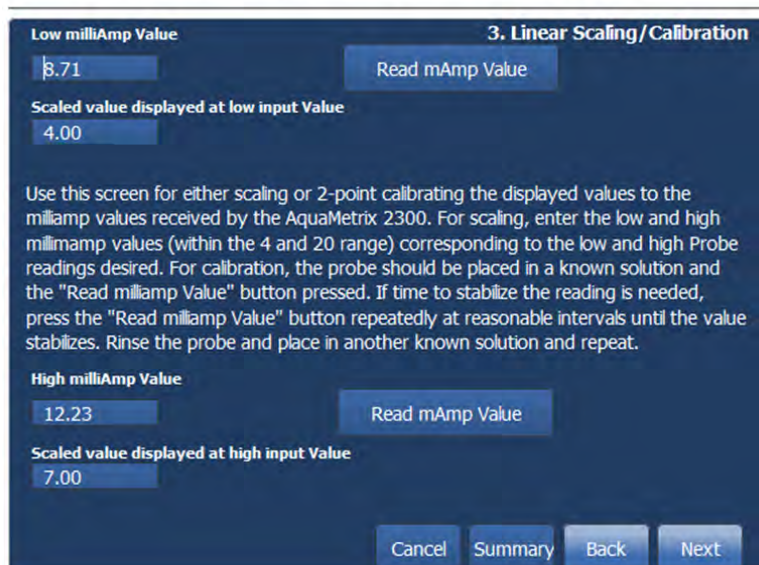

Figure 6-4 – Wizard window for linear (2-point) scaling.
If linear (two-point) calibration is chosen the screen shown in Figure 6-4 appears. A two-point calibration requires two calibration standards in which the probe is immersed. The procedure is simple:
1. Place the probe in the first calibration solution. Allow at least 30 seconds for the probe to equilibrate—more if the probe has been sitting in the process and the temperature differs from the temperature of the calibration solution. Click on the top **Read mAmp Value** and take a measurement of the current. To insure that the probe has equilibrated take at least one additional current measurement. When you are satisfied that the measurement is stable enter the process value in the box, **Scaled value displayed at low input Value**. For instance, if the probe is in pH 4 calibration solution, enter 4, as shown in Figure 6-4.
2. Rinse the probe in clean water and place it in the second calibration solution. Repeat the measurement. In the example in Figure 6-4 the second solution is pH 7.
Figure 6-4 shows a pH calibration using standards pH 4 and 7. The procedure is simple: